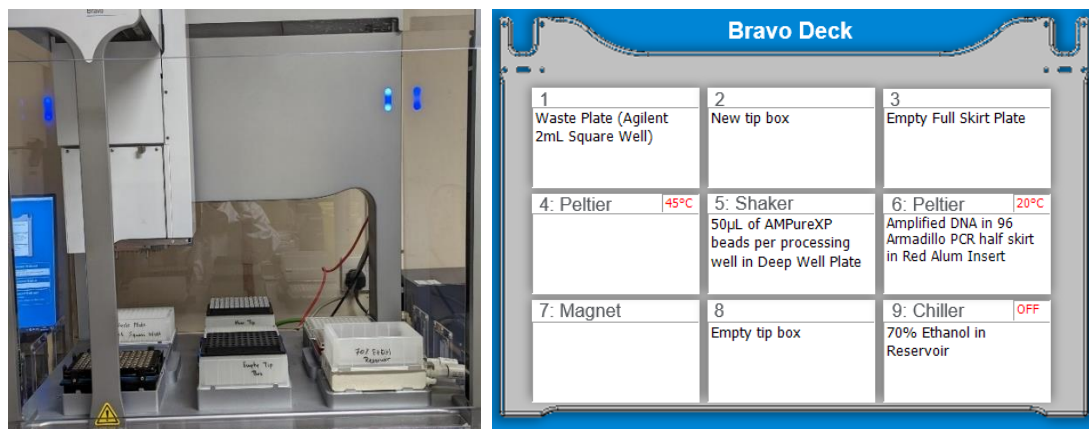

Figure 7. Example of the Bravo deck preparation and computer screen for 04a Cleanup_Pre-CapPCR_SP_XT_HS2_ILM.
17. Verify that the Bravo deck has been set up as displayed on the right side of the form, as on **Figure 7**.